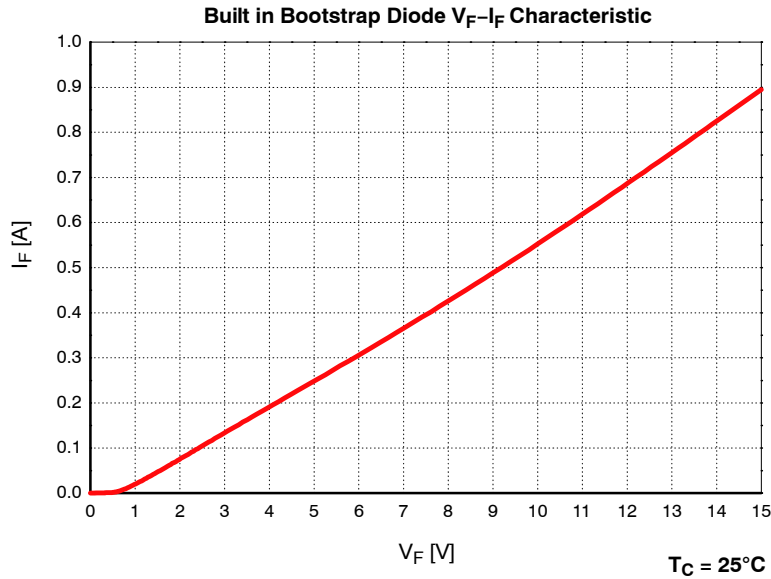

Figure 2. Built-in Bootstrap Diode Characteristics (Typical)
- Built in bootstrap diode includes around $15\ \Omega$ resistance characteristic. Please refer to Figure 2.